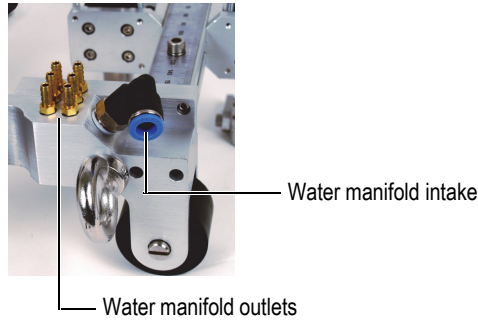

Figure 3-2 Water manifold, details
5. Connect the water tube from the water source to the intake of the scanner's manifold (Figure 3-2 on page 64).
6. Connect the irrigation tubes from the manifold outlets to the wedges inlets (Figure 3-2 on page 64).